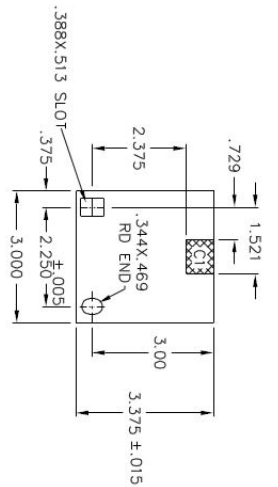

FIGURE 1
1. DETAIL PLATES ARE SAME AS VAC-CLAD (693C436), EXCEPT CT MATERIAL REMOVED VC-W FIGURE 1.